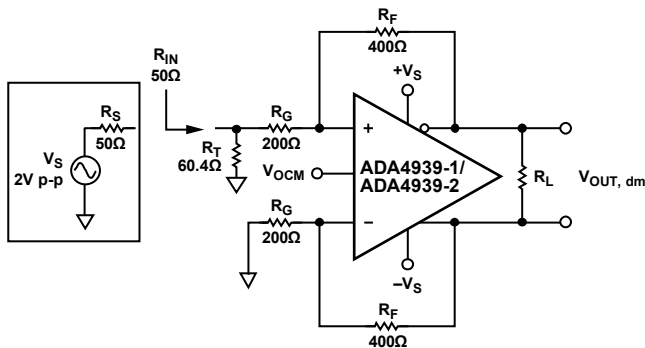

Figure 47. Adding Termination Resistor  $R_T$
- Figure 47 shows that the effective  $R_G$  in the upper feedback loop is now greater than the  $R_G$  in the lower loop due to the addition of the termination resistors. To compensate for the imbalance of the gain resistors, a correction resistor ( $R_{TS}$ ) is added in series with  $R_G$  in the lower loop.  $R_{TS}$  is equal to the Thevenin equivalent of the source resistance  $R_S$  and the termination resistance  $R_T$  and is equal to  $R_S || R_T$ .